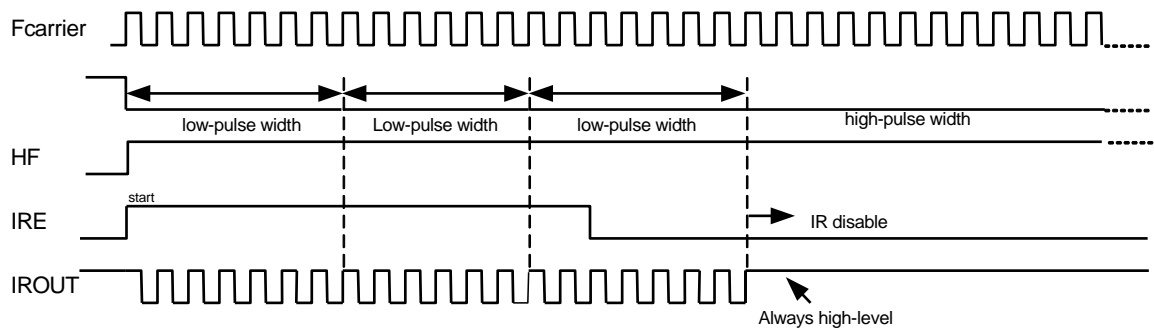

Figure 6-25 LGP=1, IROUT Pin Output Waveform
**Figure 6-25** LGP=1, when this bit is set to high level, the high-pulse width timer is ignored. So IROUT waveform output from low-pulse width timer is established.